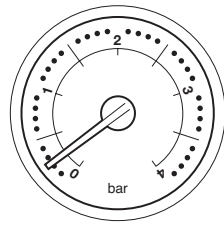
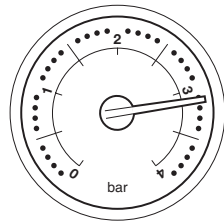

Fig. 1
Fig. 3
4. The normal operating water pressure must be at least 0.2 bar (Fig. 1) for the boiler to operate. If the pressure exceeds 3 bar (Fig. 3) the safety pressure valve will operate and a fault is indicated. Contact your installer.